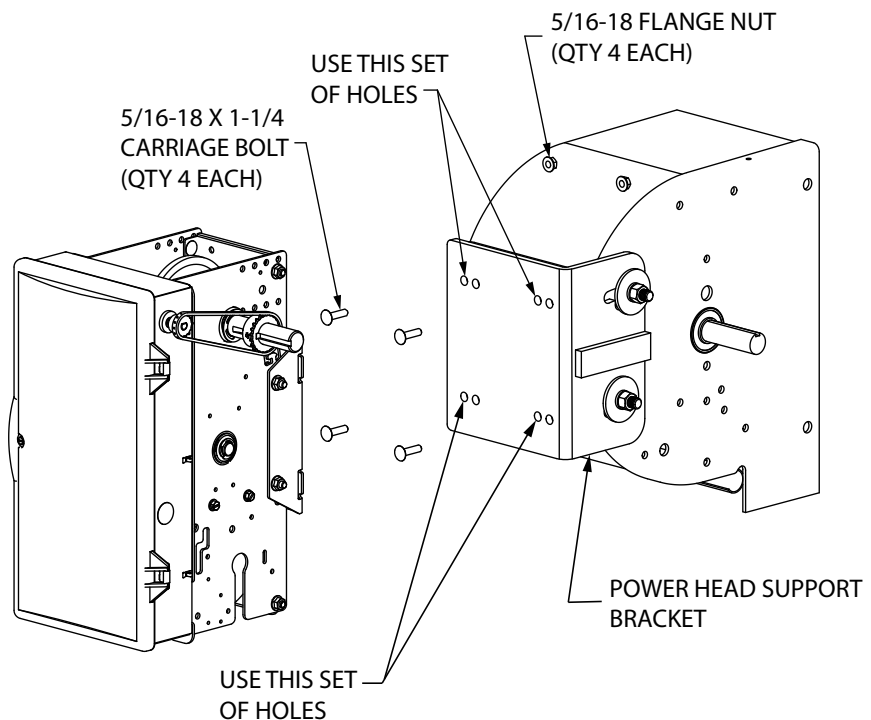

Fig. 2
3. Attach Operator to Powerhead Support bracket using the fasteners provided. Figure 2.